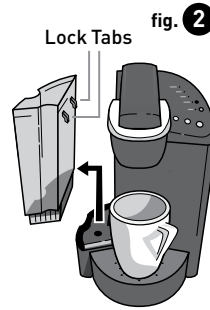

fig. 2
5. Place Water Reservoir base into the left side of the brewer and be sure the Water Reservoir Lock Tabs engage with the brewer (fig. 2). Replace Lid on Water Reservoir.